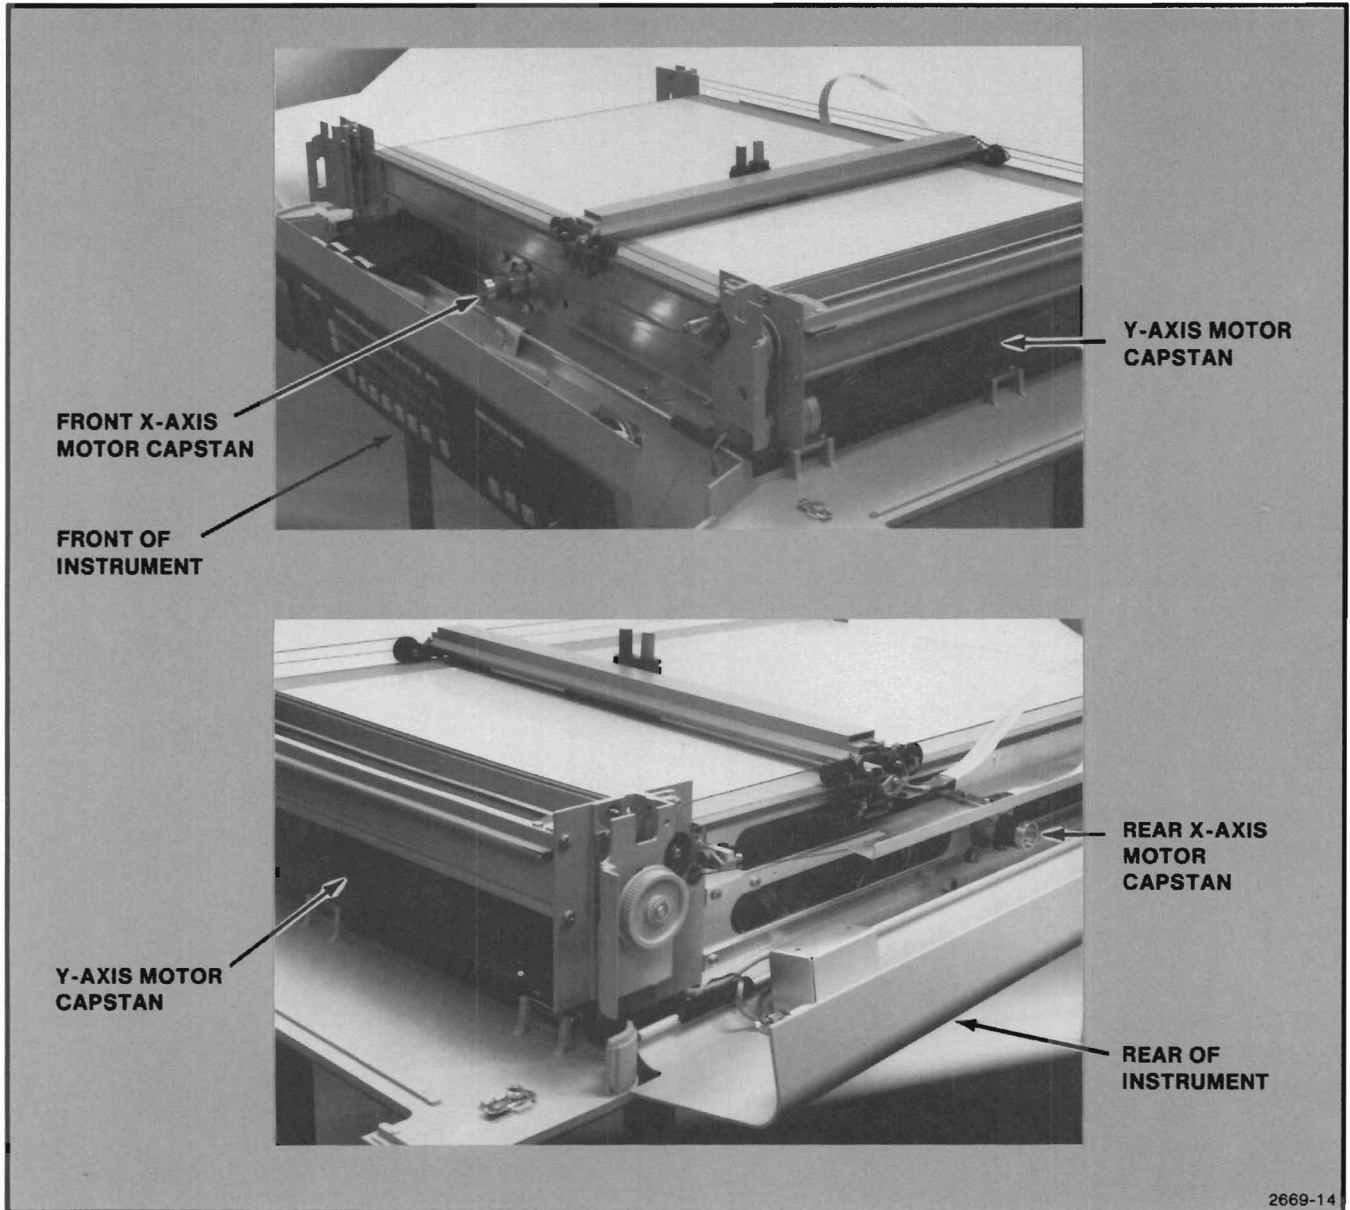

Figure 3-2. Motor-Cable Assembly Locations.
two of the motors operate in step with each other (although in opposite directions) to control carriage movement in the X direction. The three motor-cable assemblies are shown in Figure 3-2.
1. If the Plotter is equipped with a damper on the end of each pen drive motor capstan (shown in Figure 3-2), it should be removed. The damper is held by a hex-socket screw in the center of its outside face.